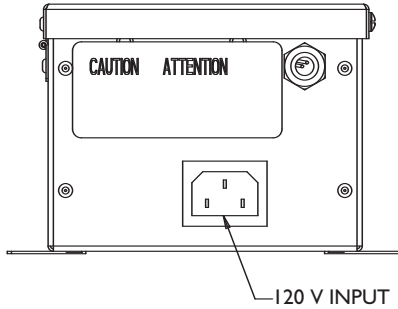

Figure 2: 120 V Input
4. Plug in the 6 foot power cord (supplied) to the 120 V input. See **Figure 2**.